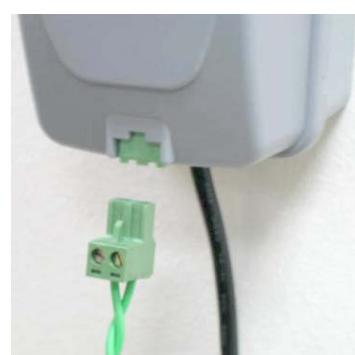

Figure 1.41
- Plug the perimeter wire connector into the Perimeter Switch (see figure 1.41)